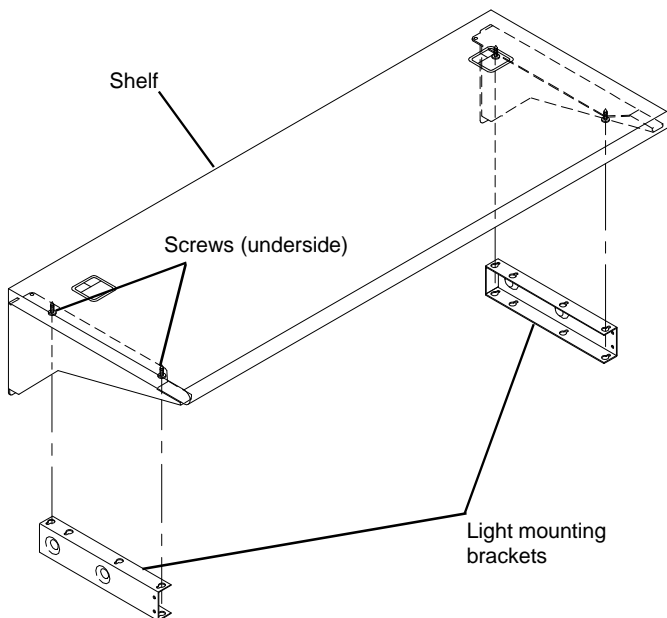

Figure 2a
2. Attach a **Light Mounting Bracket** to the underside of each shelf support. Align the keyhole slots in the brackets with the shelf attachment screws. Shift the brackets on the screws to bottom out in the keyhole slots. See **Figure 2a**.